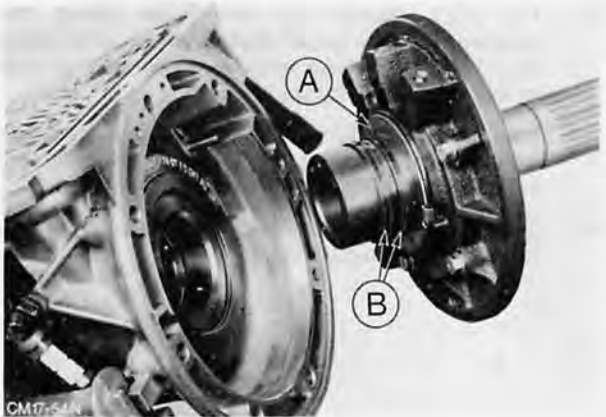

Fig. 118. A – Thrust washer No. 1
44. Turn transmission round on stand until output shaft faces downwards. Carefully insert hydraulic pump body together with thrust washer No. 1 into front assembly, Fig. 118.